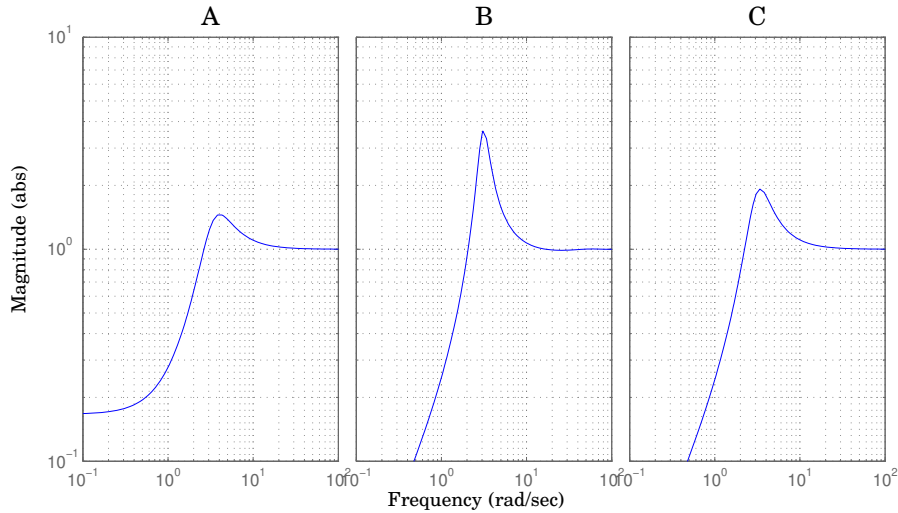

Figure 2.8 Sensitivity functions in Problem 2.6.
- Figure 2.8 shows sensitivity functions, corresponding to the three different control designs C_1 – C_3 . Match the controllers C_1 – C_3 with the sensitivity functions A–C.